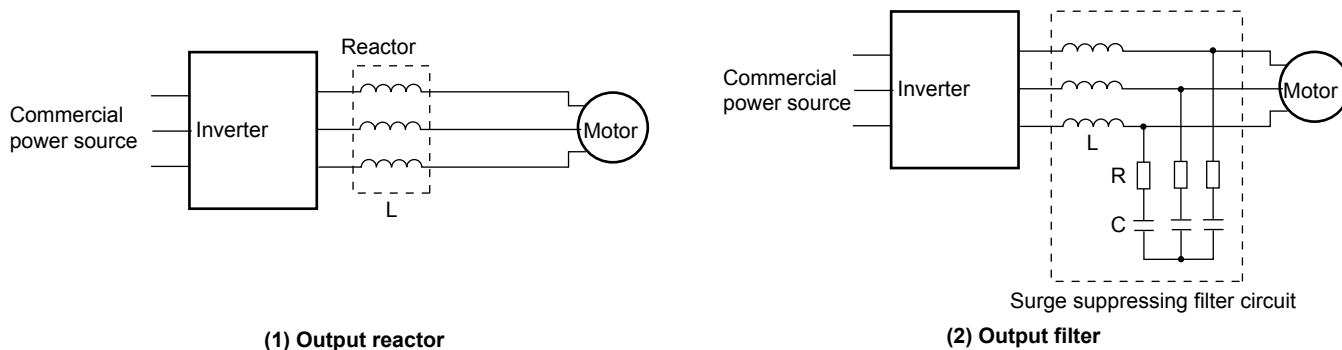

Fig. 4 Method to suppress surge voltage
(1) Output reactor
If wiring length is relatively short the surge voltages can be suppressed by reducing the voltage rising (dv/dt) with installation of an AC reactor on the output side of the inverter. (Refer to Fig. 4 (1)) However, if the wiring length becomes long, suppressing the peak voltage due to surge voltage may be difficult.
(2) Output filter
Installing a filter on the output side of the inverter allows a peak value of the motor terminal voltage to be reduced. (Refer to Fig. 4 (2))